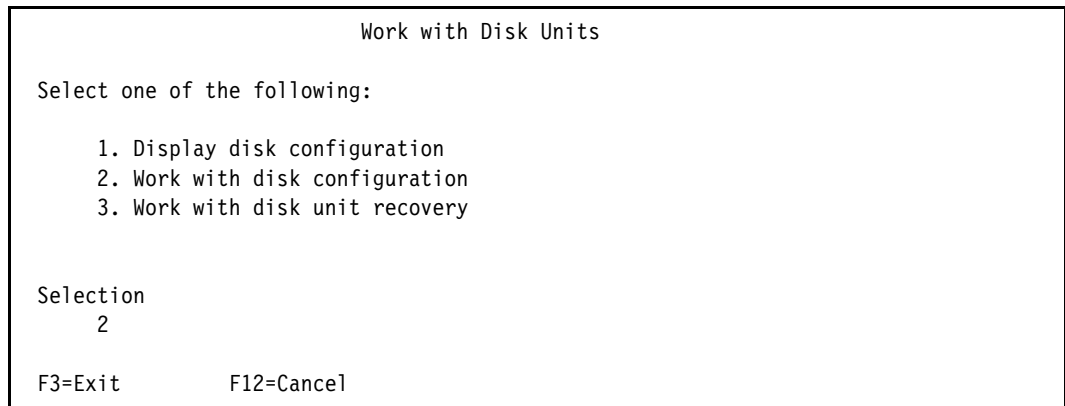

Figure B-2 Work with Disk Units menu
3. Select Option **2**, Work with disk configuration as shown in Figure B-2 on page 333.